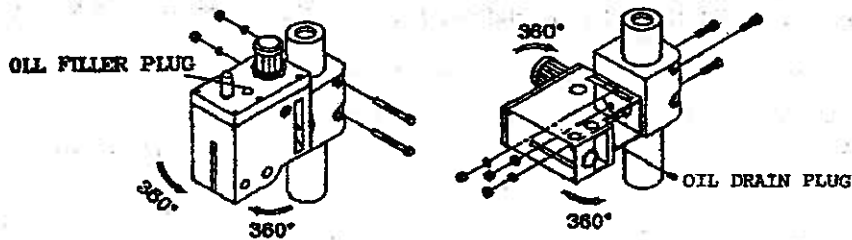

Fig. 4
- a) To raise and lower the head, loosen the two heavy duty head lock nuts shown in Fig.4. Use the left side head handle to raise and lower the head on its rack and pinion mechanism. When the desired height is reached, tighten the bolts to avoid vibration.